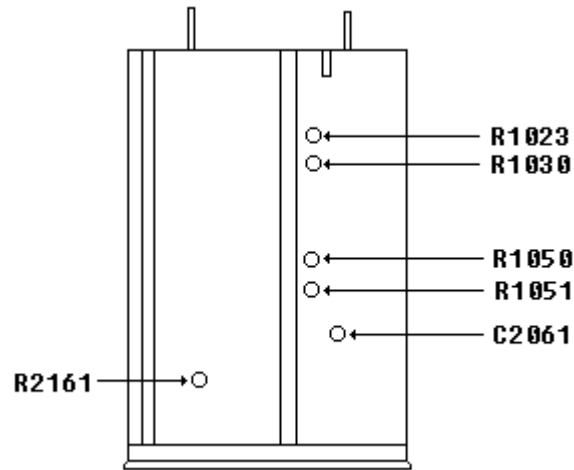
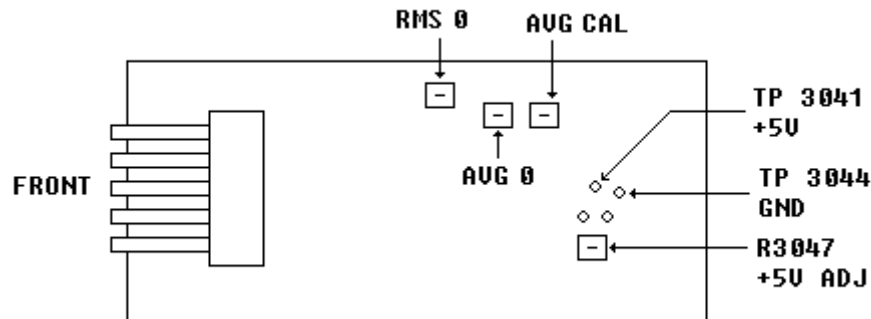
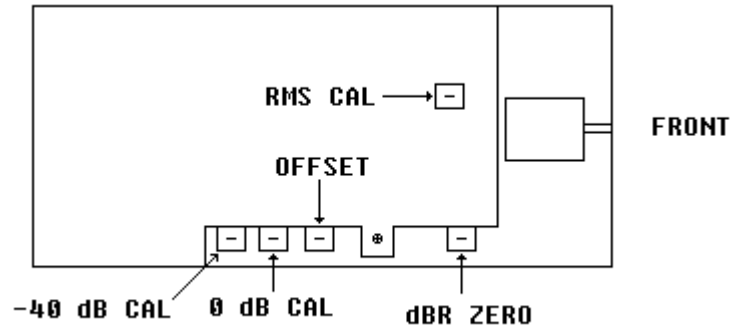

Figure 1. Test instrument - top view.
Figure 2. Test instrument - right view.
Figure 3. Test instrument - left view.
- (1) Disconnect equipment from TI **INPUT**.
- (2) Position controls as listed in (a) through (d) below:
- (3) Short TI **INPUT** - and +.
- (4) Connect oscilloscope **CH1** to TI **FUNCTION OUTPUT**.
- (5) Position oscilloscope controls for 200 mV/div, dc coupled and 200 ms/div sweep.
- (6) Press distortion range **2%** and **0.2%** pushbuttons in turn and note oscilloscope display jump amplitude. If jump amplitude is 100 mV or greater, adjust R1050 (fig. 1) for minimum jump amplitude, less than 100 mV, when switching between 2% and 0.2% (R).
- (7) Disconnect short and oscilloscope from TI.
- (8) Connect calibrator **OUTPUT HI** and **LO** to TI **INPUT +** and **-**.
- (9) Position controls as listed in (a) through (d) below:
- (10) Set calibrator for a 15 mV, 1 kHz output.
- (11) Adjust RMS 0 (fig. 2) until TI indicates 0.015 V (R).
- (12) Press **FUNCTION dBm 600Ω** pushbutton and record TI indication.
- (13) Release **RESPONSE RMS/AVG** pushbutton to **AVG** and adjust AVG 0 (fig. 2) until TI indicates same value recorded in (12) above (R).
- (14) Press **FUNCTION VOLTS** pushbutton.
- (15) Press **RESPONSE RMS/AVG** pushbutton to **RMS**.
- (16) Set calibrator for a 1.5 V, 1 kHz output.
- (17) Adjust RMS CAL (fig. 3) until TI indicates 1.500 V  $\pm$ 0.001 V (R).
- (18) Release **RESPONSE RMS/AVG** pushbutton to **AVG**.
- (19) Adjust AVG CAL (fig. 2) until TI indicates 1.500 V  $\pm$ 0.001 V (R).
- (20) Press **RESPONSE RMS/AVG** pushbutton to **RMS**.
- (21) Set calibrator for a 1 V, 60 kHz output.
- (22) Record TI indication.
- (23) Set **INPUT RANGE** switch to **20 V**.
- (24) Set calibrator amplitude to 10.00 V.
- (25) Adjust C2061 (fig. 1) for a TI indication 10 times greater than that recorded in (22) above (R).
(1) Set **INPUT RANGE** switch to **2V**.
(2) Set calibrator for a 774.6 mV, 1 kHz output.
(3) Adjust 0 dB CAL (fig. 3) until TI indicates 00.0 dBm (R).
(4) Set calibrator amplitude to 77.46 mV.
(5) Adjust R2161 (fig. 1) until TI indicates -20.0 dBm (R).